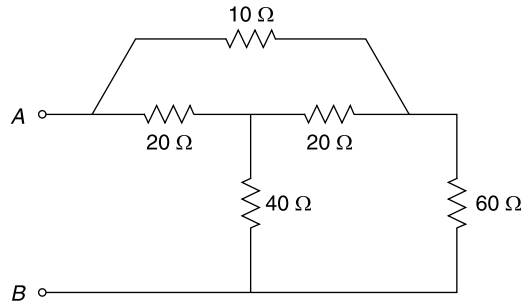

Fig. 4.58 Circuit of Ex. 4.41
4.41 Using star-delta conversion, find the equivalent resistance between terminals *A* and *B* in the network shown in Fig. 4.58.